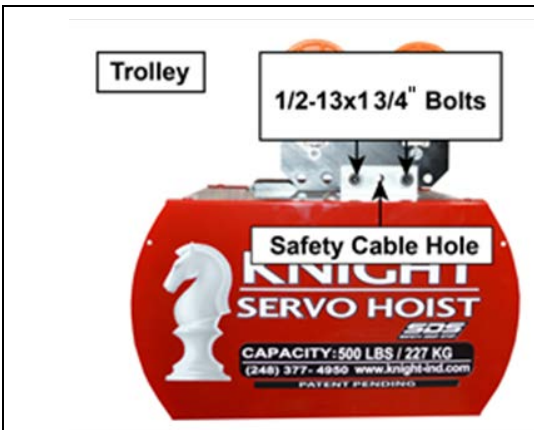

Figure 2-2
- 1) Slide thimbles together. (Refer to Figure 2-2)
- 2) Slide (2) two Crosby cable clamps onto the cable.